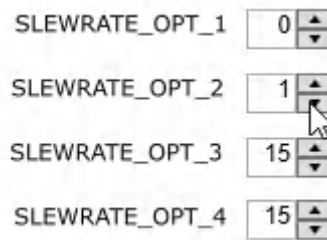

Figure 4-4. SLEWRATE_OPT# Assignment Example in TICS Pro 2
- a. For example, if you wanted the fastest, second fastest, and the slowest slew rate, assign 0x0, 0x1, and 0xF to registers SLEWRATE_OPT#. SLEWRATE_OPT1 = 0x0 (fastest), SLEWRATE_OPT2 = 0x1 (second fastest), and SLEWRATE_OPT3 = 0xF (slowest). SLEWRATE_OPT4 does not have to be assigned, but if you want more than one register set to a slew rate, then SLEWRATE_OPT4 can be assigned to any of the three previous settings. For this example, SLEWRATE_OPT4 = 0xF (slowest) as shown in Figure 4-4.